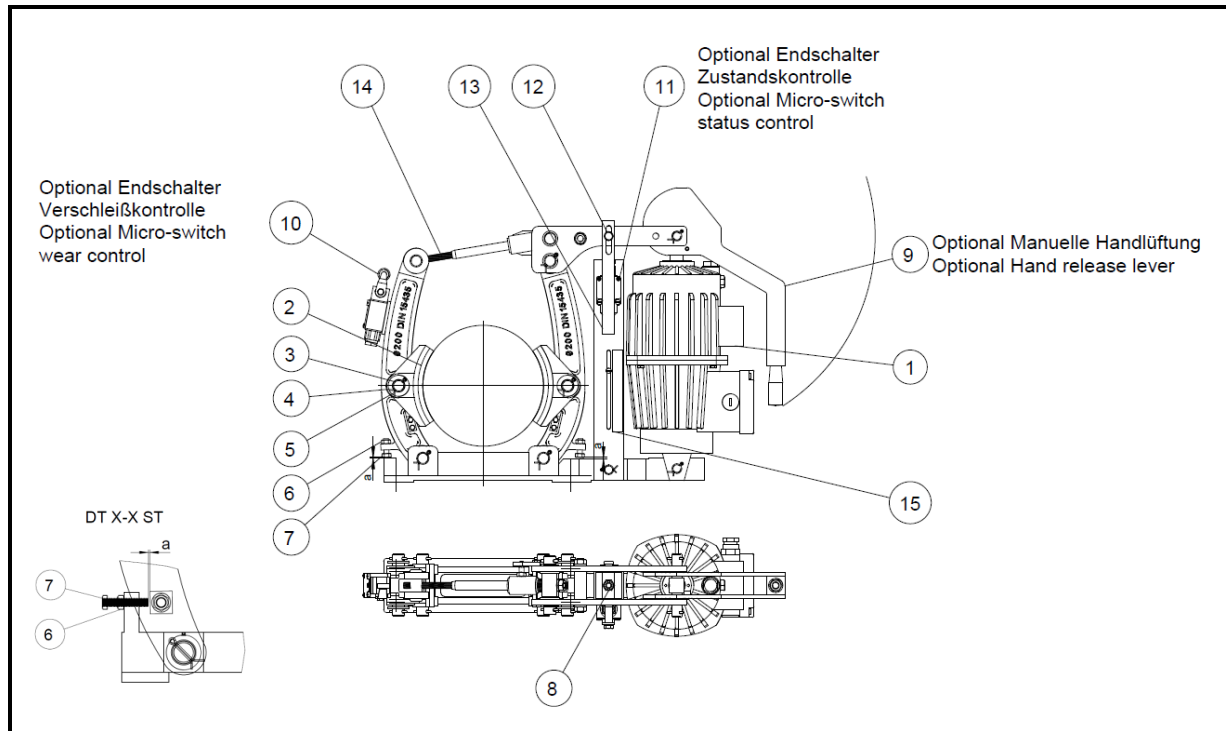

Fig. 2.1
The brake pad distance is set after the brake calliper has been assembled and after pad wear through adjusting / readjusting, see Fig. 2.1.
The setting/adjusting process of the FEM version manually brake has to be carried out with the adjusting spindle (item 14) and the two adjusting screws (item 7), shown in Fig. 2.1.
The setting/adjusting process of the FEA version automatic brake has to be carried out only by using the two adjusting screw (item 7), shown in Fig. 2.1.
- For the purpose of adjusting, loosen the nut (item 6) and turn the adjusting screw (item 7) into the lever by approx. 2 revolutions.
- With the adjusting screws (item 7), the total clearance of 3 mm on one side is evenly spread to 1.5 mm on each side Fig. 2.1 measure a on both side balancing. Once the adjustment has been carried out, secure the position of the adjusting screws (item 7) using the nuts (item 6).